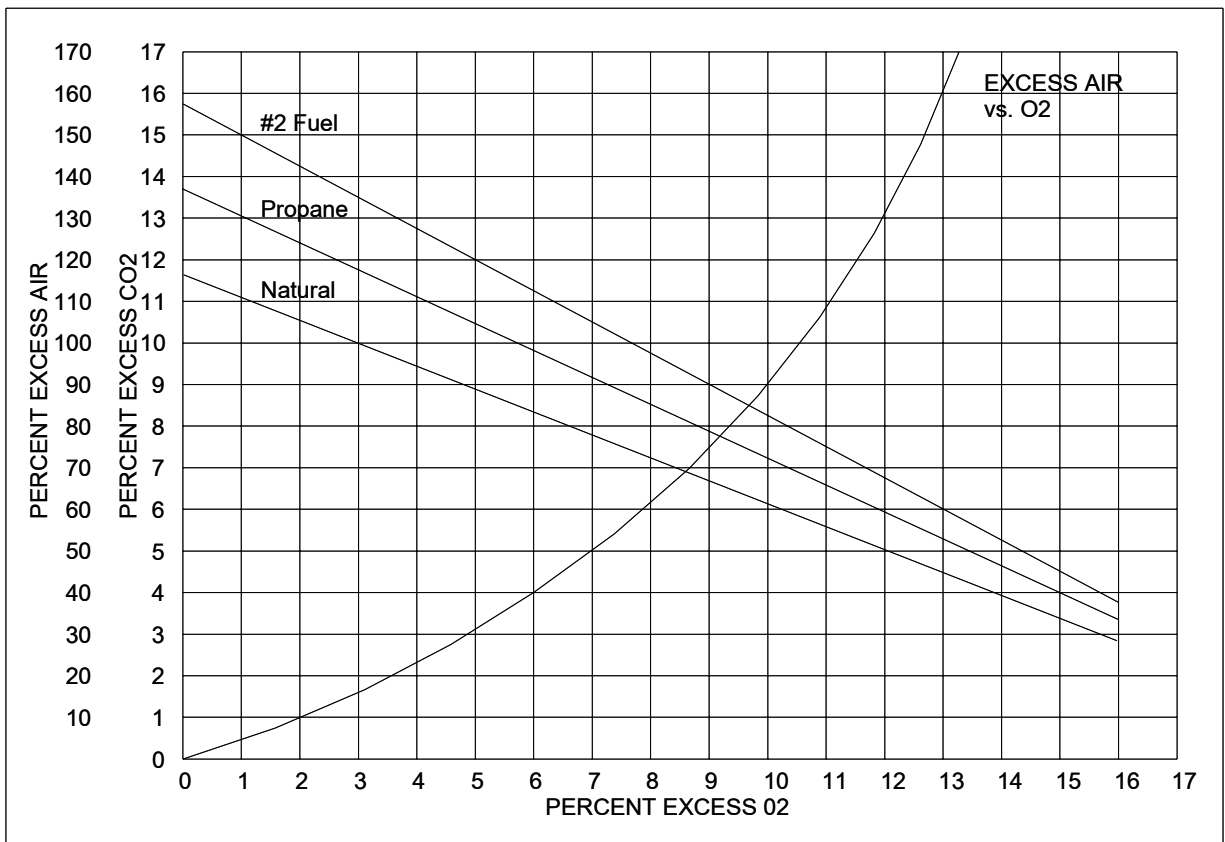

Figure 5: CO2 versus O2
- 3.1.2 See **Figure 5** for CO2 versus O2 Curves. These curves correlate the relative values of O2 and CO2 for the fuels listed, as well as the percentage of excess air at given O2 and CO2 values.